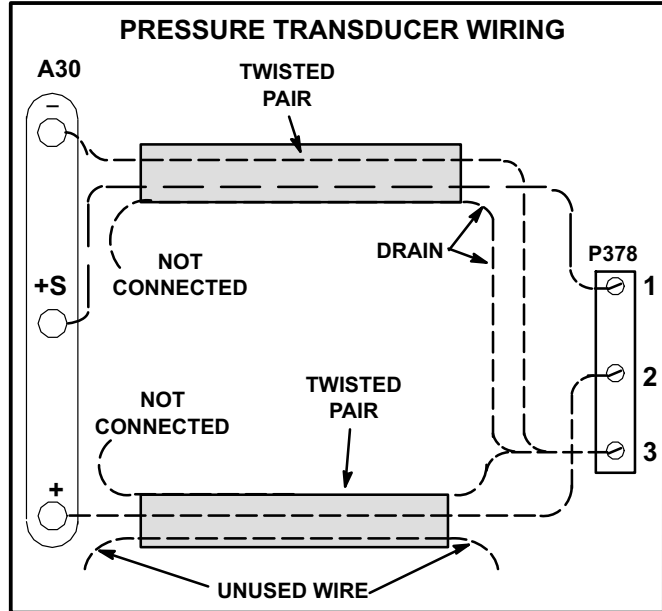

FIGURE 25
2. Two twisted pairs of shielded cable must be used to connect the pressure transducer. See figure 25. J/P378 connector is hanging in the control box.